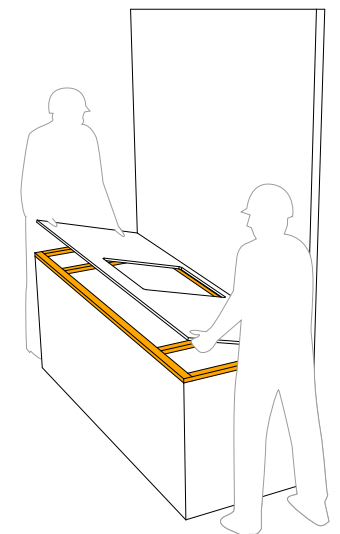

fig. 3
- Hold the countertop over the surface, sliding it into place (fig. 3).